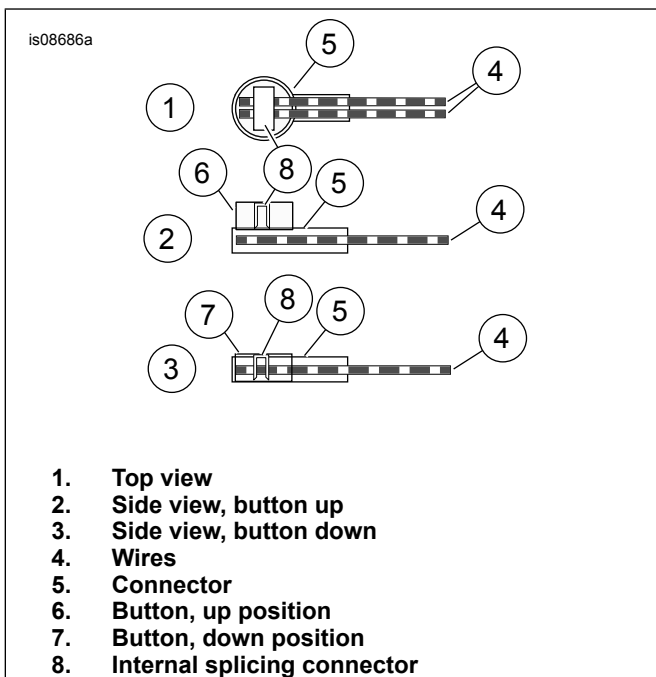

Figure 3. Splice Connector and wires
8. See Figure 3. Slide color matched wires (4) all way into connector (5) as shown.
9. Using pliers, crimp button from up position (6) to down position (7).